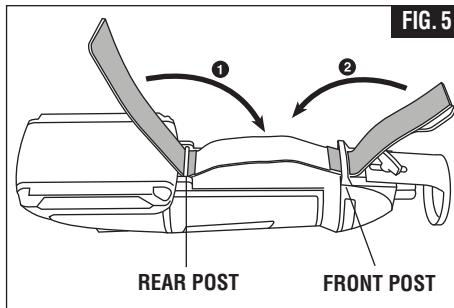

FIG. 5
Fold the front flap over first (1), then fold the end with the wrench (2) as shown. Press firmly to ensure the strap is secured (Fig. 5).